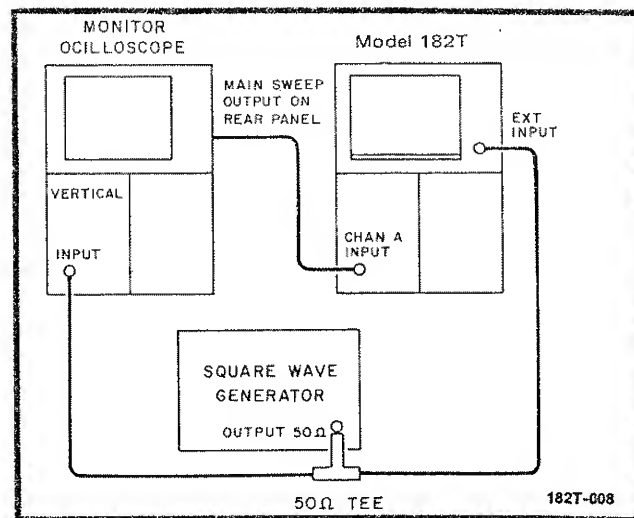

Figure 5-3. Transient Response Adj. Test Setup
- a. Use test setup (figure 5-3).